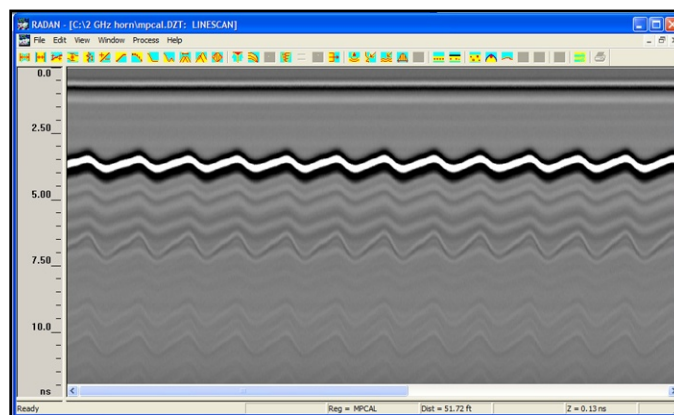

Figure 78: Metal Plate File.
- 3** Go to File and open the Metal Plate File. It will look similar to Figure 78.